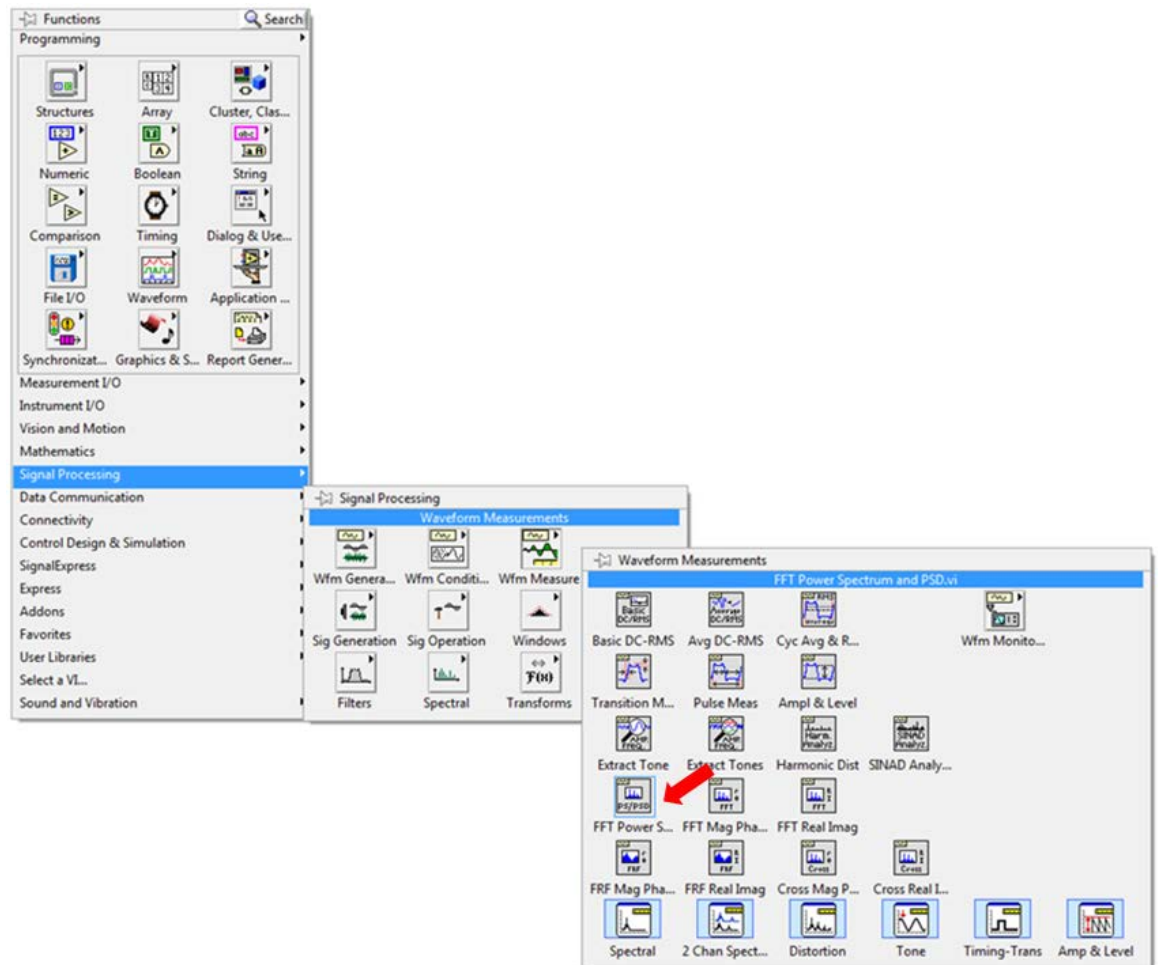

Figure 31. LabVIEW contains many built-in analysis functions and many others are supported through tool kits and add-ons.
2. Right click on the block diagram and select **Signal Processing » Waveform Measurements » FFT Power Spectrum and PSD** as seen in Figure 31.